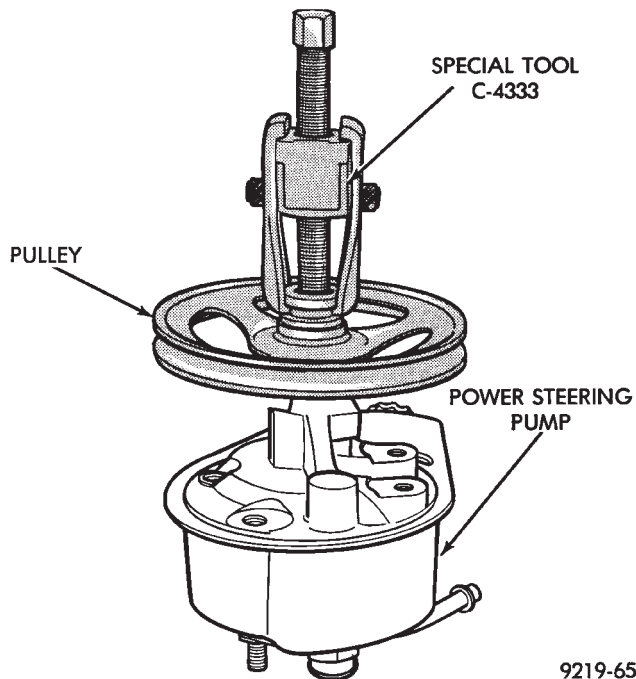

Fig. 1 Pulley Removal (Typical)
(1) Remove the pulley with Puller C-4333 (C-4068) (Fig. 1).